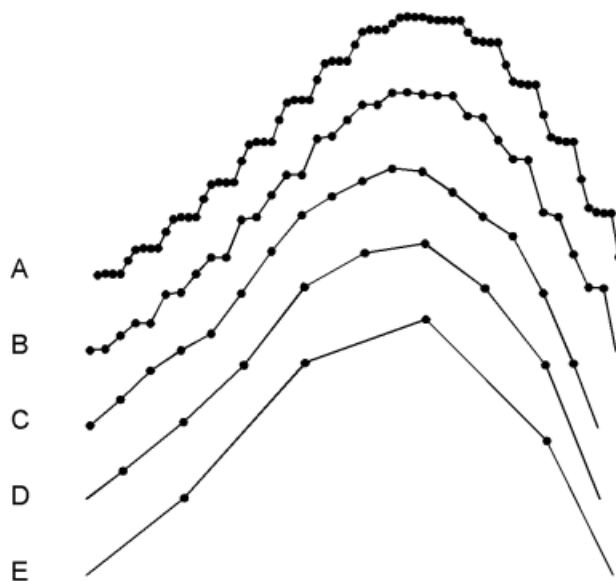

Figure 1-13 Chromatograms Acquired at Different Data Rates
In pulse mode, the data sampling time occurs only at t_1 in the cycle (where cycle = $t_1 + t_2 + t_3$). For example, if $t_1 = t_2 = t_3 = 100$ ms, then $t_{cycle} = 300$ ms or approximately 3 points per second. Data acquisition at a higher rate is unnecessary because this results in acquisition of multiple data points containing the same output value (Figure 1-13, A and B). Matching the pulse cycle to the data rate keeps the peak shape unchanged (C). Decreasing the data rate to less than half the pulse frequency changes the peak shape (E).
Scan in Figure 1-13	Pulse Cycle Time Factor